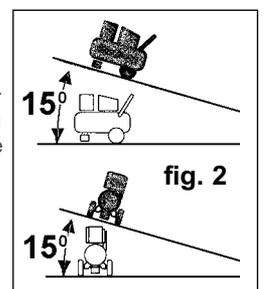

fig. 2
- 3.4. The compressor should be operated on a flat surface, or one that does not exceed 15° either transversely or longitudinally (fig.2), and should be in a position that allows good air circulation around the unit.